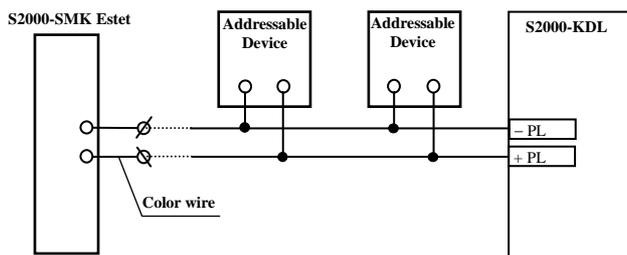

Figure 1: S2000-SMK Estet Wiring Diagram
The S2000-SMK Estet is to be brought into the S2000-KDL controlled two-wire addressable multiplex polling loop (PL) as shown in Figure 1. The contact is used with such Zone Types as 4, Intrusion and 7, Entrance (states Norm and Intrusion Alarm) as well as 6, Auxiliary (states Auxiliary Zone Alarm and Auxiliary Zone Restored). Zone types and programming procedures are described in S2000-KDL, S2000(M), and Orion Pro software user's manuals.